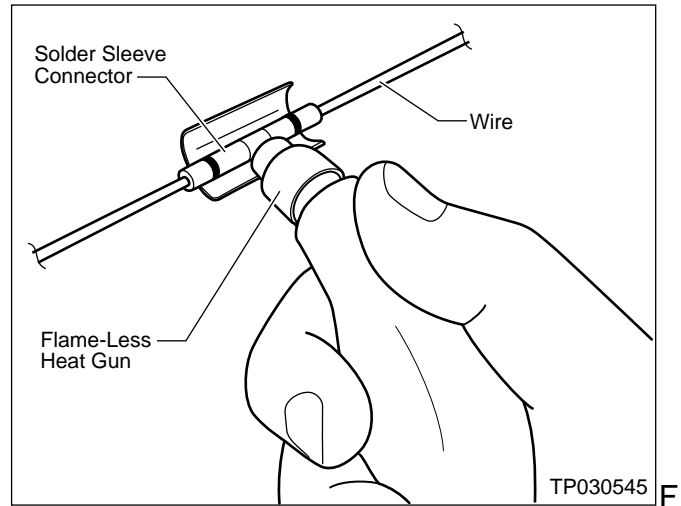

Figure 5
8. Use the FlameLess Heat Gun to heat the Solder Sleeve connector (see Figure 5). This operation will: